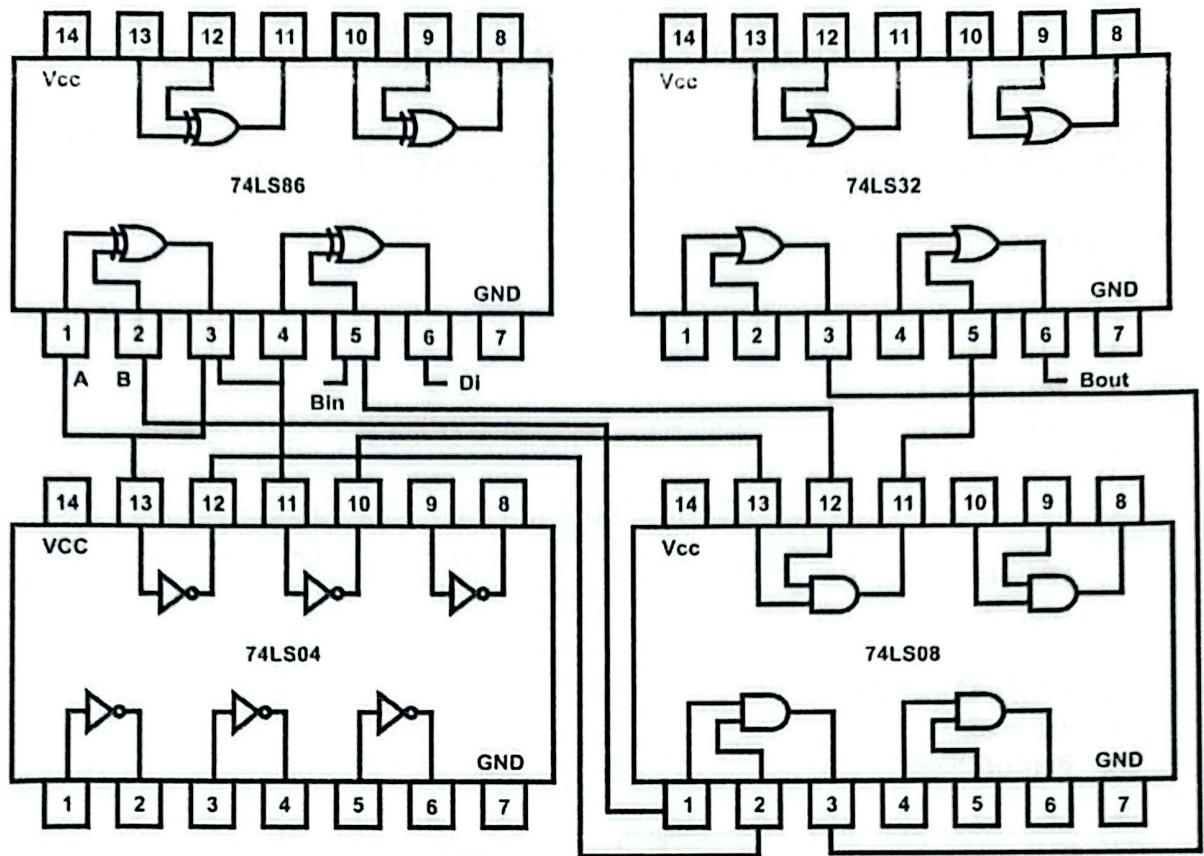

Fig. 12.2
4. Wire the circuit according to the diagram in figure 12.2.